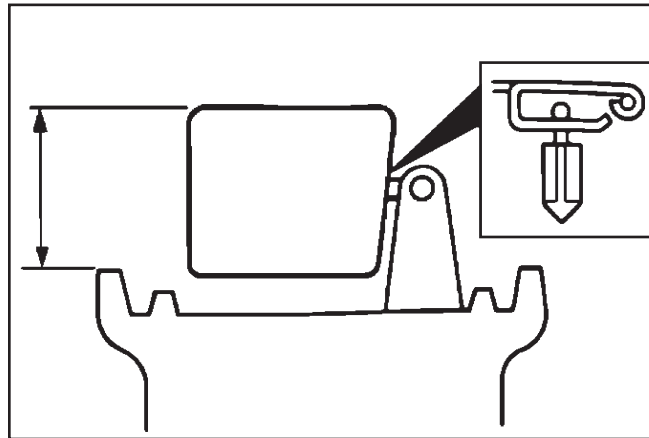

Figure 5-4. Float Height Position.
8. Place the carburetor in an inverted position. Lift up the float so that the tip of the float valve lightly contacts the float arm. See Figure 5-4. Measure the float height from the casting surface as illustrated in Figure 5-5. Float height for the CS4 and CS6 is 16 mm (0.63 in.). Float height for the CS8.5, CS10, and CS12 is 14.9 mm (0.59 in.). Install a float kit if the float height is incorrect.